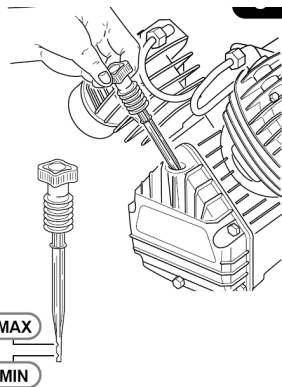

Fig. 6: Test rod
Remove the cap from the housing and insert the oil level dipstick (Fig.6).
- Carefully ensure that the oil level is between the minimum and maximum value of the test rod (Fig. 6).